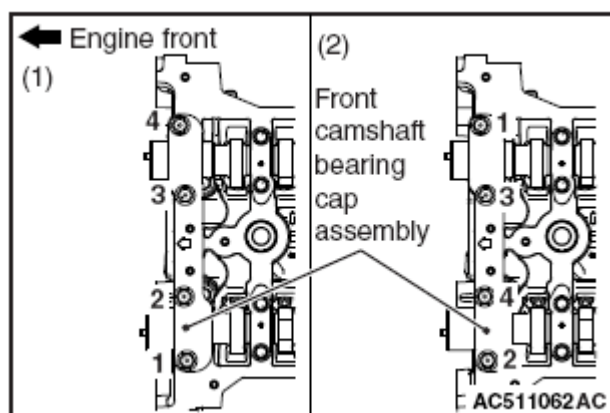

Fig. 51: Identifying Front Camshaft Bearing Cap Bolt Tightening Sequence
1. Install the front camshaft bearing cap to the cylinder head, and temporarily tighten the camshaft bearing front cap to the specified torque in the order of the **Fig. 51**.
2. Tighten the front camshaft bearing cap again to the specified torque in the order of the **Fig. 51**.